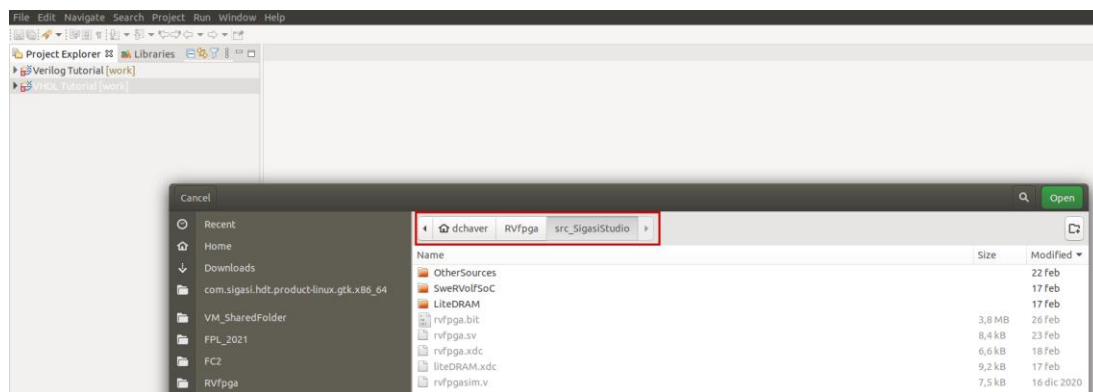

Figure 4. Open the RVfpga source directory
4. Now click on “Browse...” and navigate to and select the `src_SigasiStudio` directory and click Open (see Figure 4) and then click on Finish.